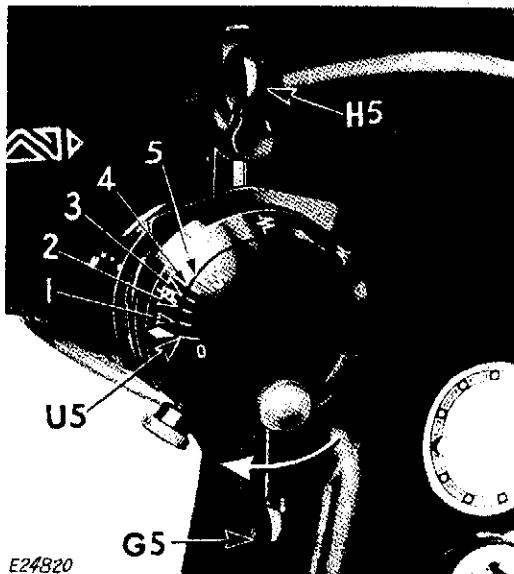

Fig. 110. Bight Controls At Central Position (Straight Stitching)
) Test #1—Straight stitch at central position. **Fig. 110.**
The sidewise position of the needle during straight or zigzag stitching is determined by the setting of the **NEEDLE BAR POSITION LEVER H5**, Fig. 110.
The width of the bight is determined by the setting of the **BIGHT CONTROL LEVER G5**, Fig. 110.
When the bight lever **G5**, Fig. 110 is at its **lowest possible position**, the machine is set at **ZERO**
The bight lever **G5** may also be set at #1, #2, #3 or #4 positions on the **BIGHT CONTROL SCALE U5**, **Fig. 110**, thus setting the width of bight to one of those shown in **Figs. 105, 106, 107 or 108** respectively.
**SETTING:** Bight lever **G5** at lowest point (Zero Bight) and position lever **H5** at highest point (CENTRAL POSITION) as shown in **Fig. 110.**